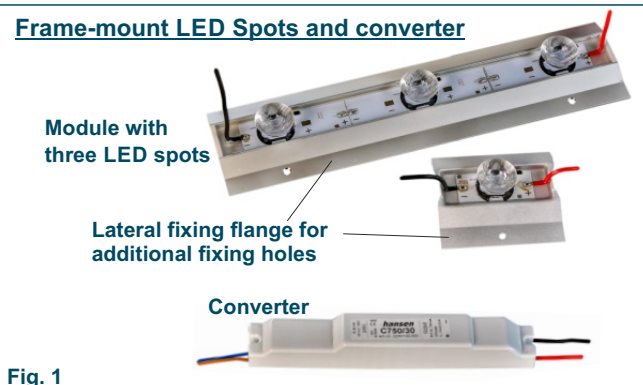

Fig. 1
- If additional fixing holes are required, these must be drilled into the lateral fixing flange of the LED Spots (see fig. 1). No holes must be drilled into the potting compound.